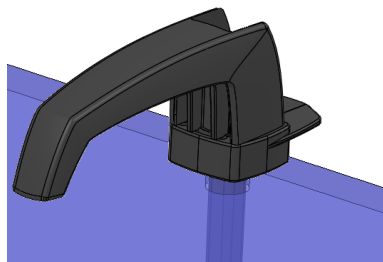

Fig.1
2. Push the locking piece into the square pin. Note the direction of the tongue according to the windscreen frame and direction of rotation of the handle. Also note which way the (Fig.1) tongue should be.